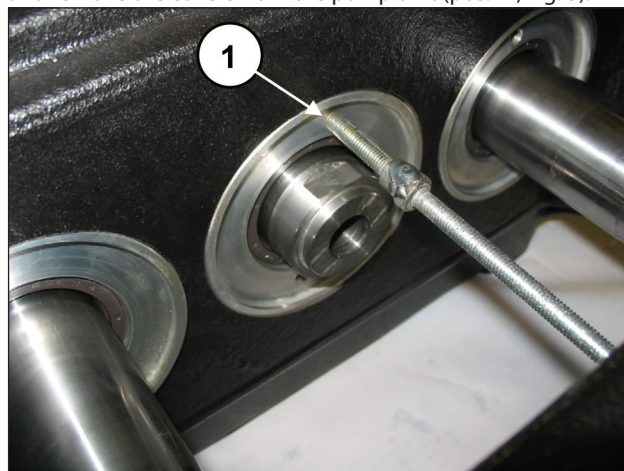
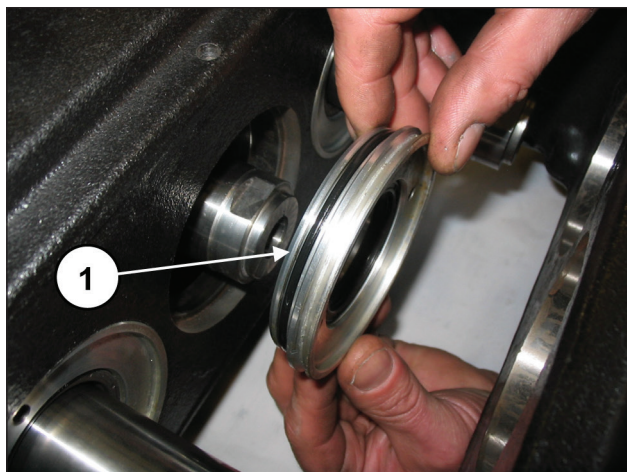

Fig. 4
Fig. 5
Remove the oil seal covers, screwing in a threaded bar or an extractor M6 screw in the holes in the cover (pos. ①, Fig. 4) and remove the covers from the pump unit (pos. ①, Fig. 5).